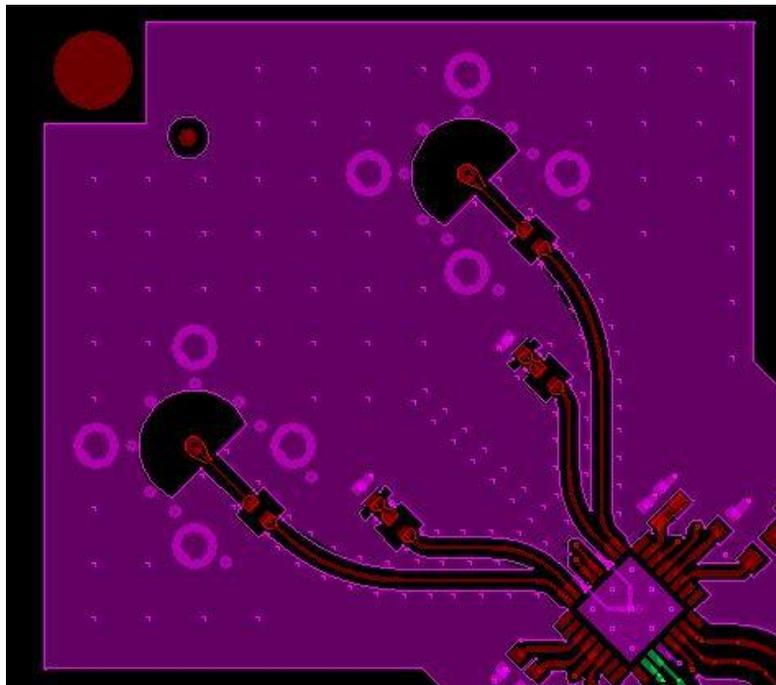

Figure 4. LMH1297 Through-Hole Coplanar Example
2. Use a grounded coplanar waveguide to provide better isolation. In a coplanar waveguide, a center conductor with ground stitches on both sides of the signal is used. Using coplanar trace, the return current generated by the high frequency signal is shorted to the ground plane. Figure 4 shows an example coplanar PCB layout using the LMH1297 bidirectional I/O. To isolate or reduce cross talk, this coplanar PCB layout isolates SDI input pins number 1 and 2 from SDI output pins 7 and 8. Note that the 50-mil spacing between the ground stitched vias provide a ground return path for up to the 3rd harmonics of cable driver slew rate.